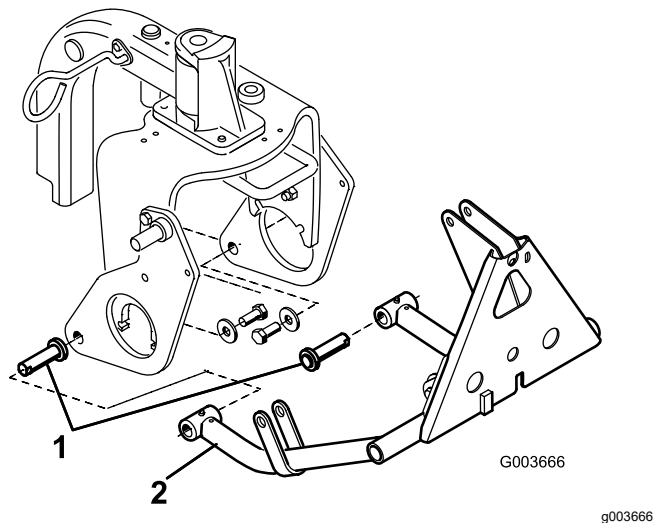

Figure 13
- Insert a cylinder pin into each push arm tube as shown in Figure 13.
- Insert the push arm tubes onto the right and left plow plates aligning the cylinder pin guides with the holes in the plow plates (Figure 13).
- Mount each cylinder pin to each plow plate with a bolt (5/8 x 1-1/2 inches) and a washer (1.68-inch outside diameter x 0.65-inch inside diameter) as shown in Figure 13.